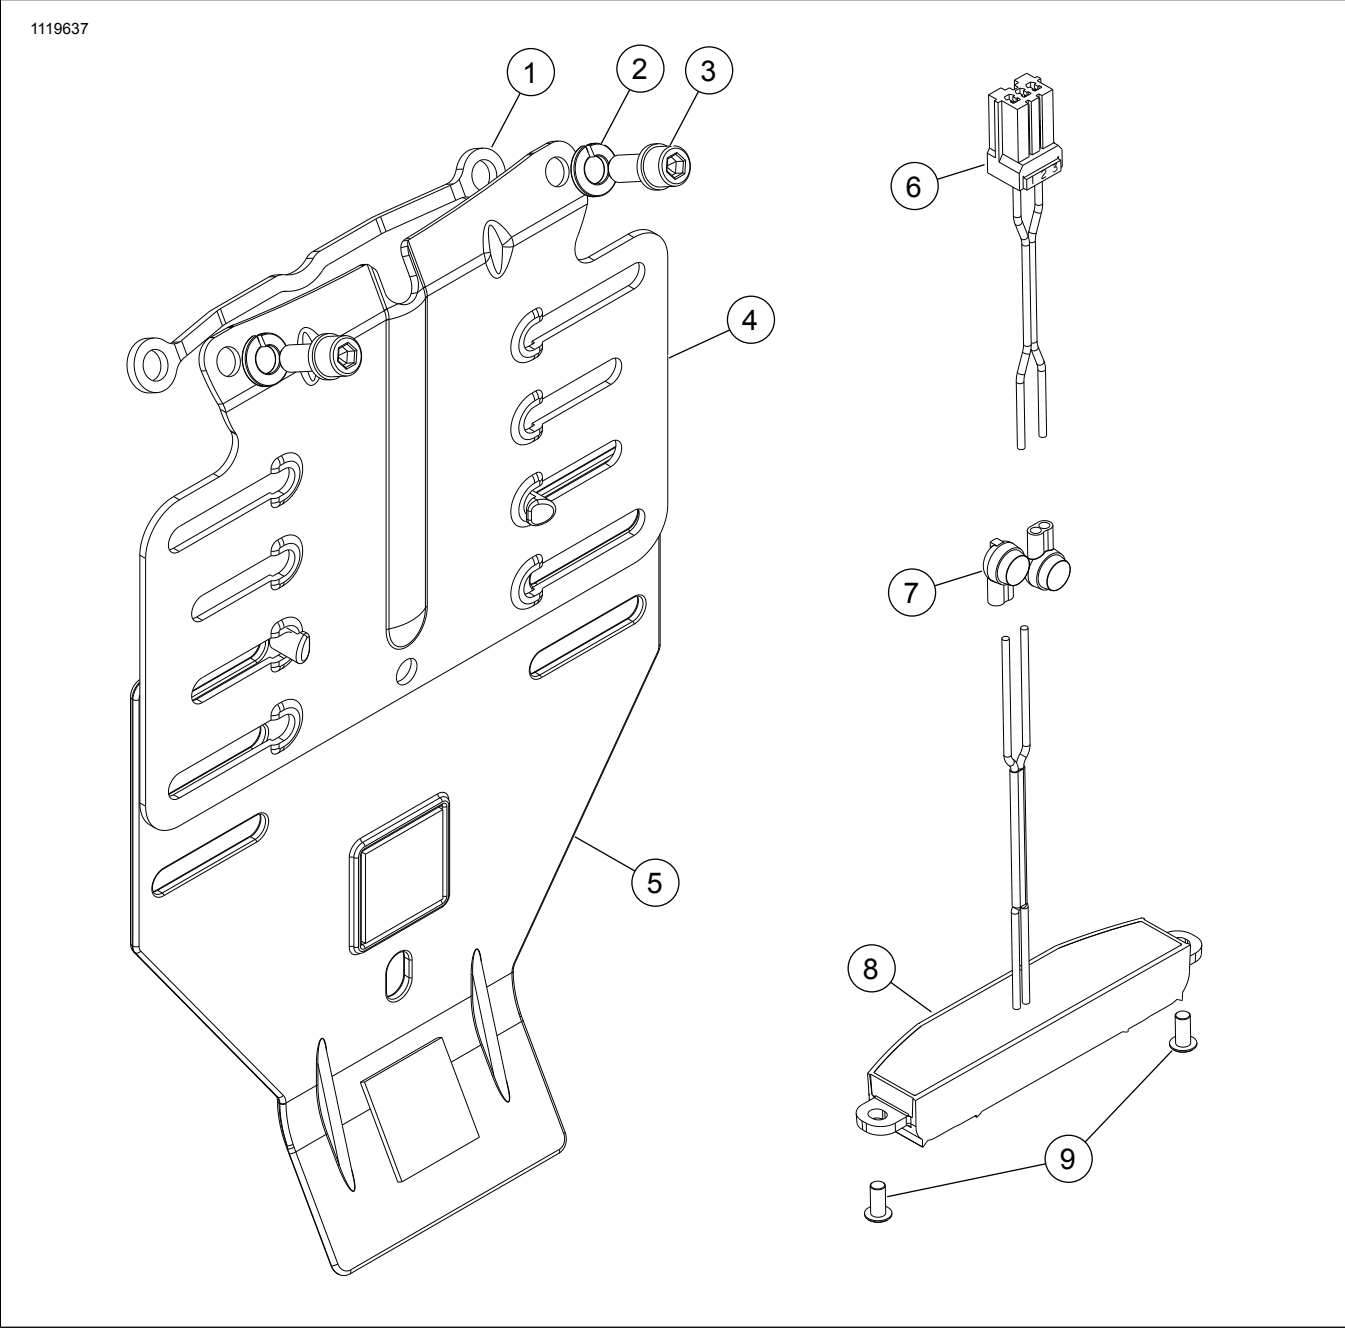

Figure 7. License Plate Relocation Kit
See Figure 7 and Refer to Table 1.
3. **International models:** Install Item 5 to extend license plate bracket. See Figure 7.